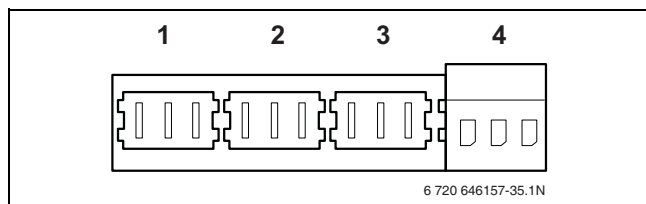

Fig. 38 120 VAC Connections
- Connect the external heating or system pump (for situations where the pump of the Buderus pump group is not used) to the green PK terminal (→ fig. 38). The maximum allowed connected load of the pump = 100 Watts.
- Connect the DHW pump to the grey PS terminal (→ fig. 38). The maximum allowed connected load of the pump = 100 Watts.
- Connect the DHW circulation pump to the lilac PZ terminal (→ fig. 38). The maximum allowed connected load of the pump = 100 Watts.